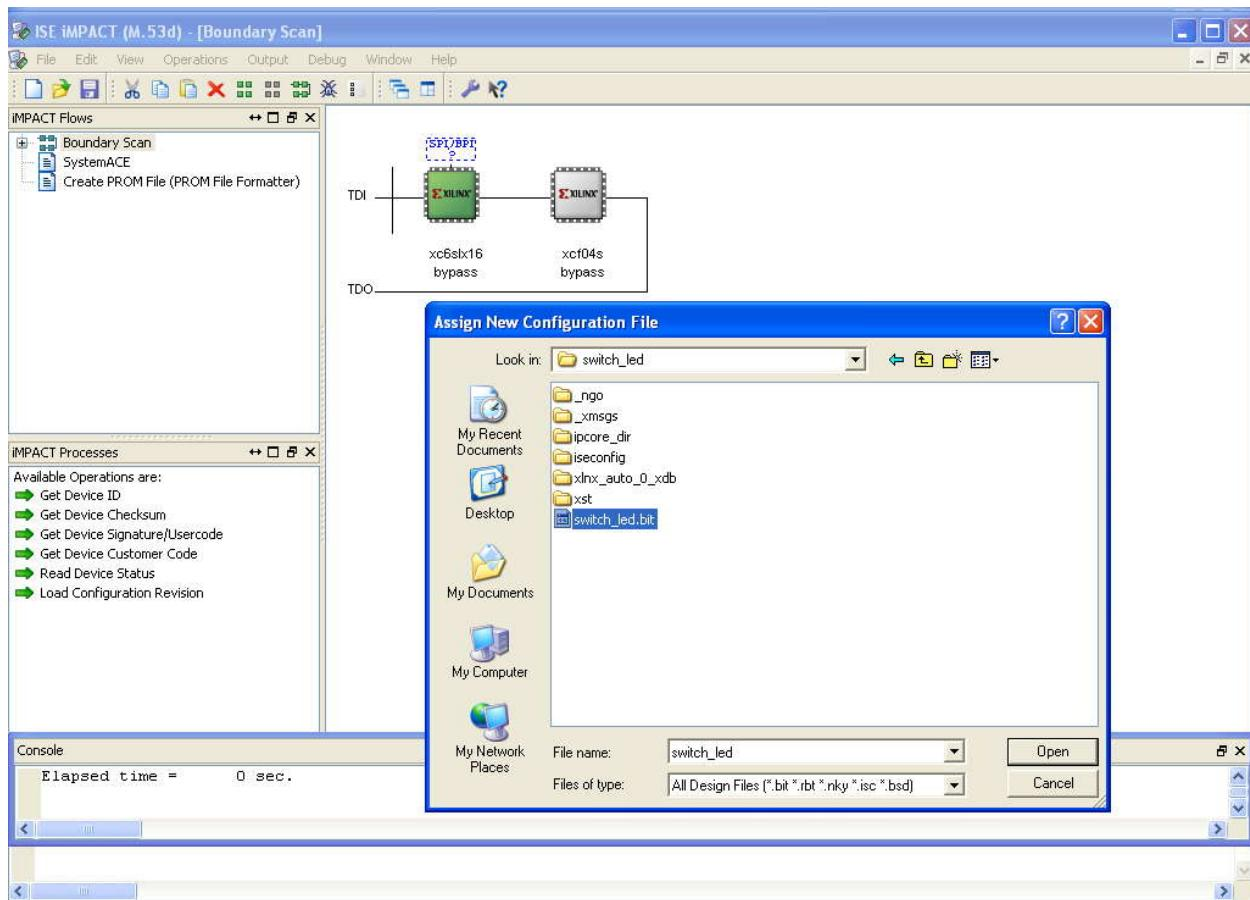

Figure-38
16. Now the cable is identified **IDENTIFY SUCCEEDED**. Then select the bit file swled.bit and select open. Refer figure 37. The new window will open. Here select NO for continues the process. Refer figure-38. Then the new window will open click Cancel all refer figure 39.